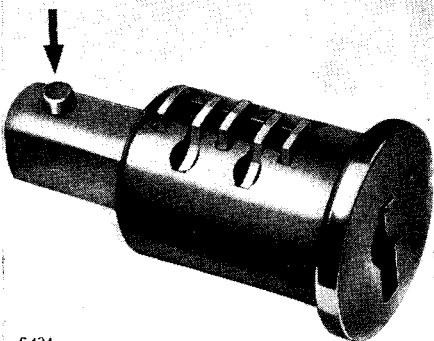

Fig. 29.
2. Position switch so probe is inserted through hole in body to depress spring loaded plunger shown on Fig. 29.